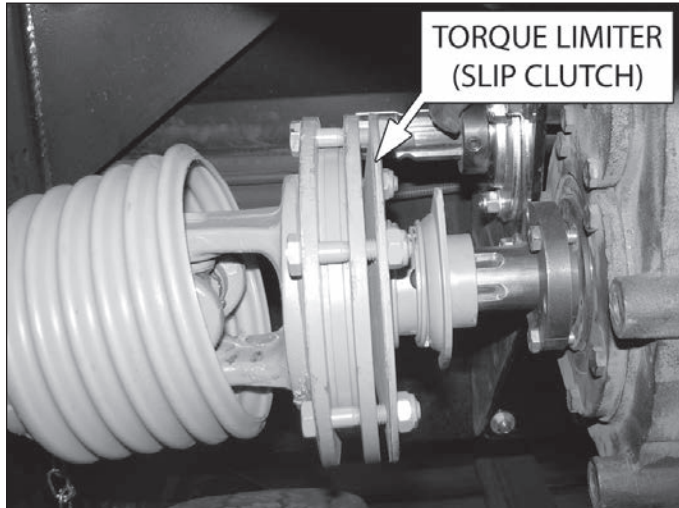

Figure 47: Friction Disc torque limiter (slip clutch)
1. Disconnect the PTO driveline from the implement (Figure 47).